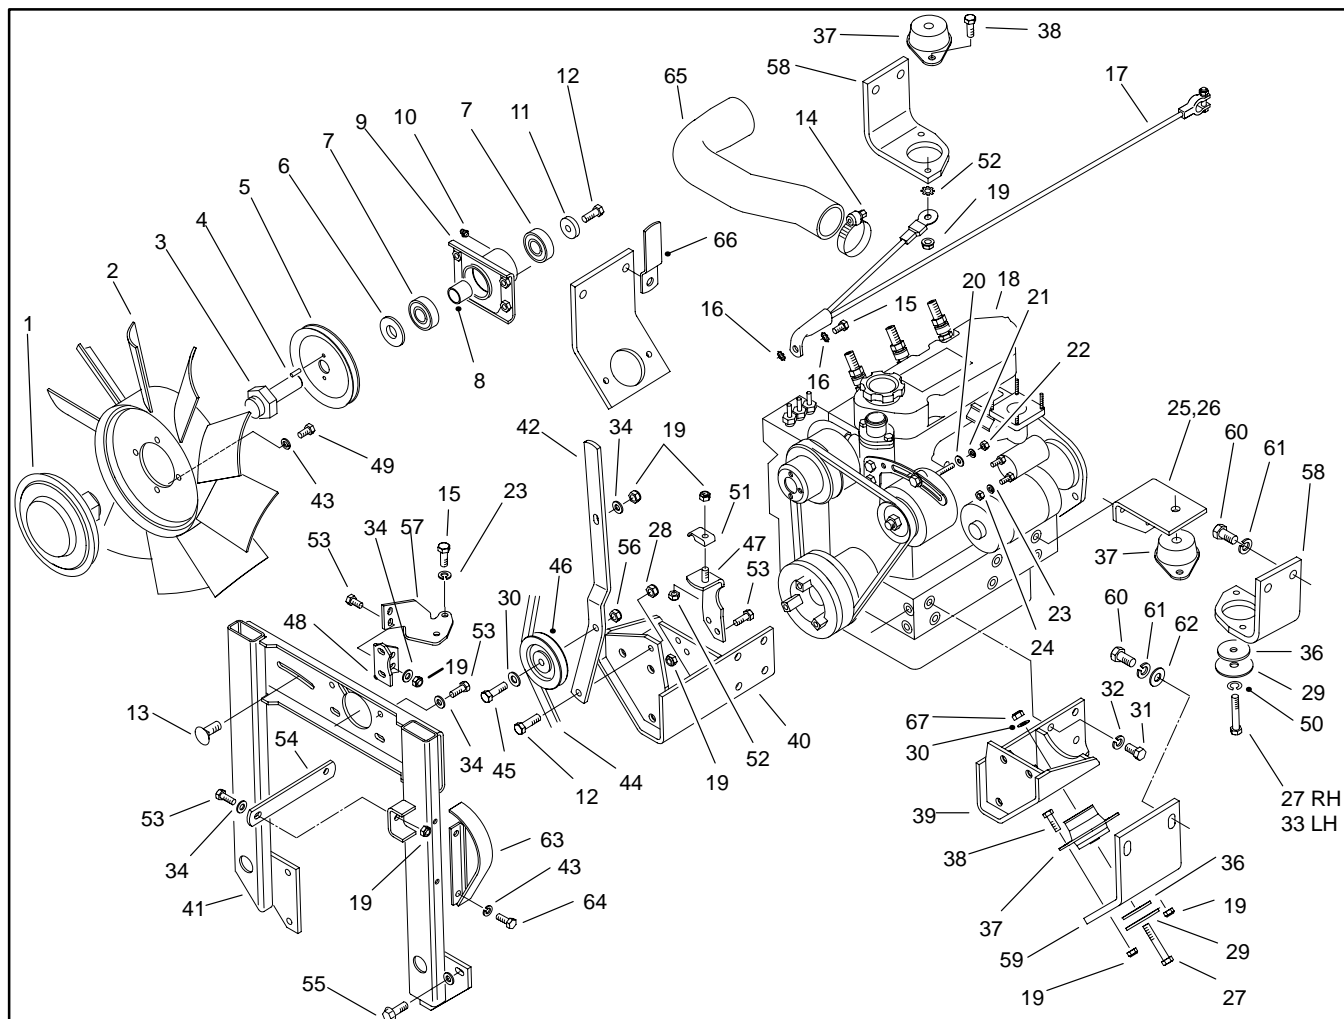

Figure 25
16. Remove engine fan support and engine brackets from the engine as necessary using Figure 25 as a guide.
2. Install engine and fan support brackets to the engine using Figure 25 as a guide.